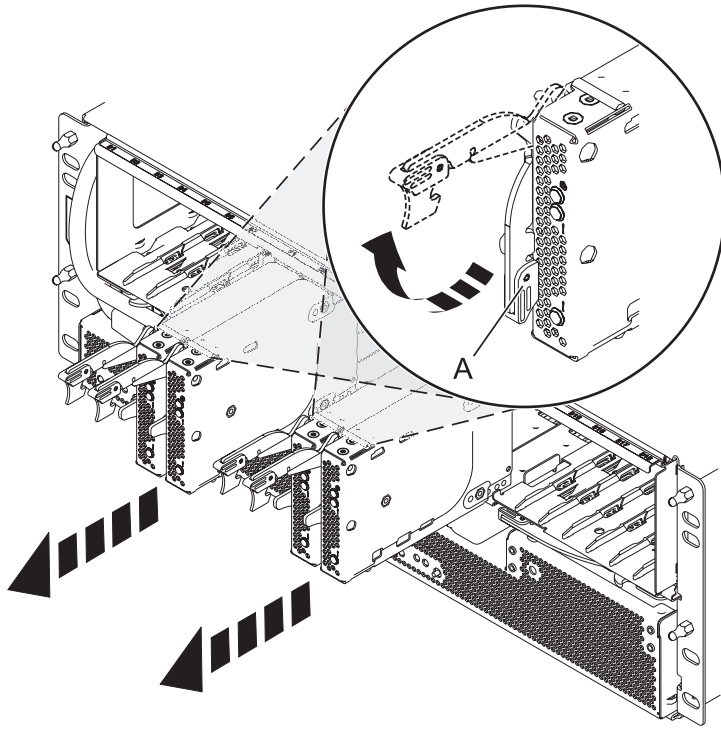

Figure 65. Removing the port card from the backplane
5. Remove the port cards and fillers as shown in Figure 65 on page 86.
- a. Hold the end of the latching handle (A) and pull it upward to unlock the port card.